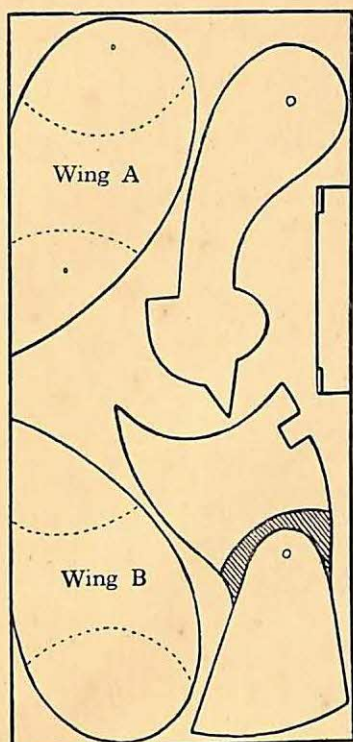

Fig. 1
1. Make Working Drawings (see page 16, par. 1), trace them on the wood and cut out with fretsaw. (Note the arrangement of the pieces according to the grain, to prevent breaking. See Fig. 1.) If the bird is to have a fixed tail, cut the body and tail in one piece; if the tail is to move, cut the body and tail in separate pieces, leaving out the part that is shaded.
3. Glue and nail body to wing A; the dotted lines indicate correct position (see Fig. 1).